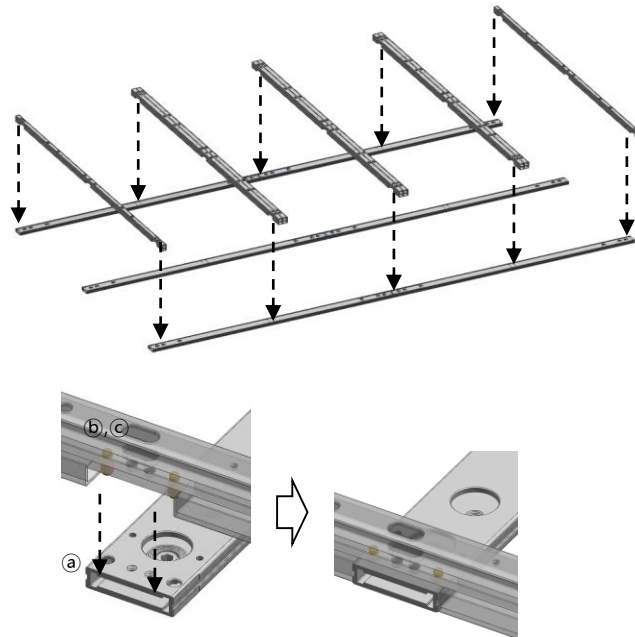
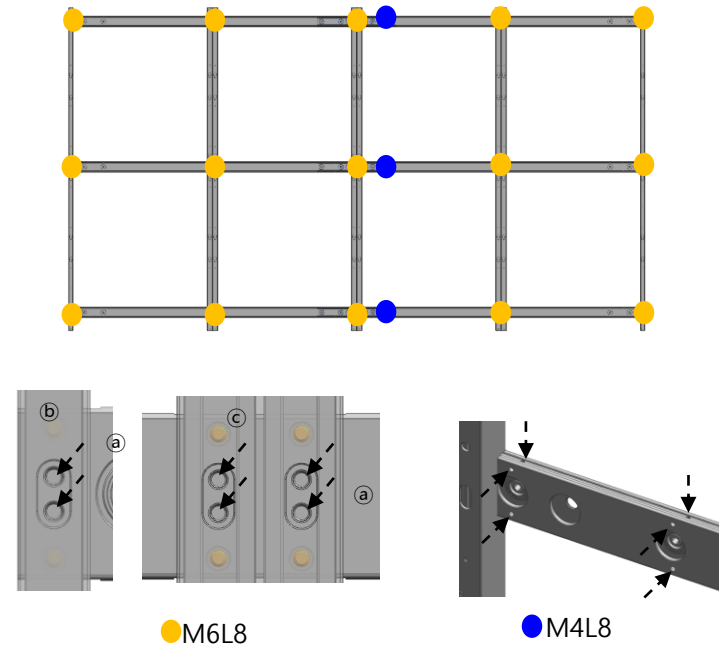

Fig.2 Insert Bracket V to Bracket H
Fig.3 Fix Bracket with screw
- Second put 3 groups of Bracket H on ground. And insert Bracket Side/Middle to Bracket H. (Fig.2)
- . ② Bracket Side used at side position, ③ Bracket Middle used at middle position.
- Then fasten up the screws. (Fig.3)